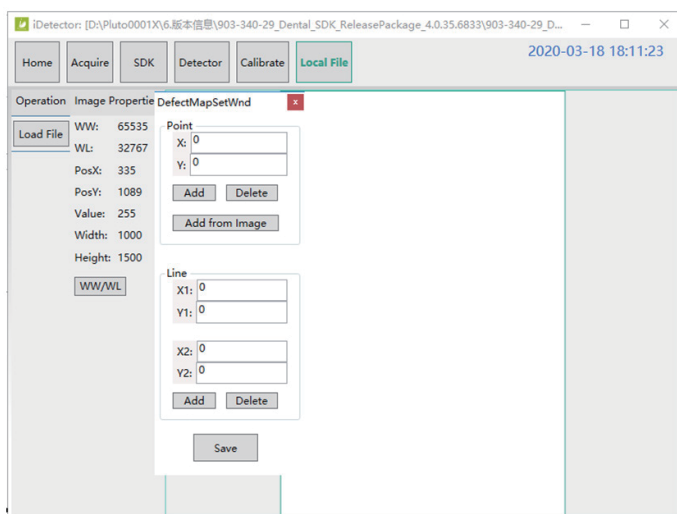

Figure 3.7.1 Defect modification window
2. After opening file, dead pixels and faulty line setting window will pop up as shown in Figure 3.7.1 below. Type in the coordinate in point area, click Add button to add dead pixels and click Delete button to delete dead pixels;